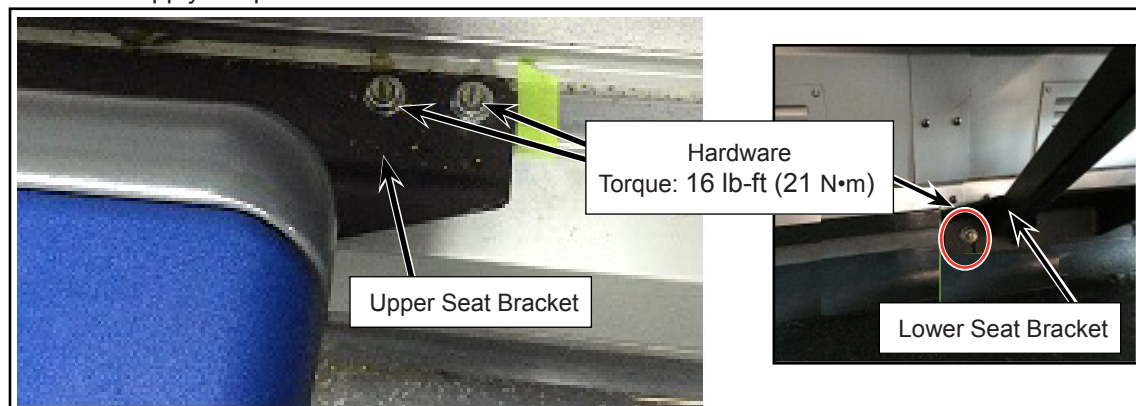

Figure 19 - Typical View of Nuts Installed to Bracket
2.10.3. Attach nuts to upper and lower seat bracket with a 9/16" (14mm) socket (see Figure 19).
2.10.4. Torque hardware as specified (see Figure 19).